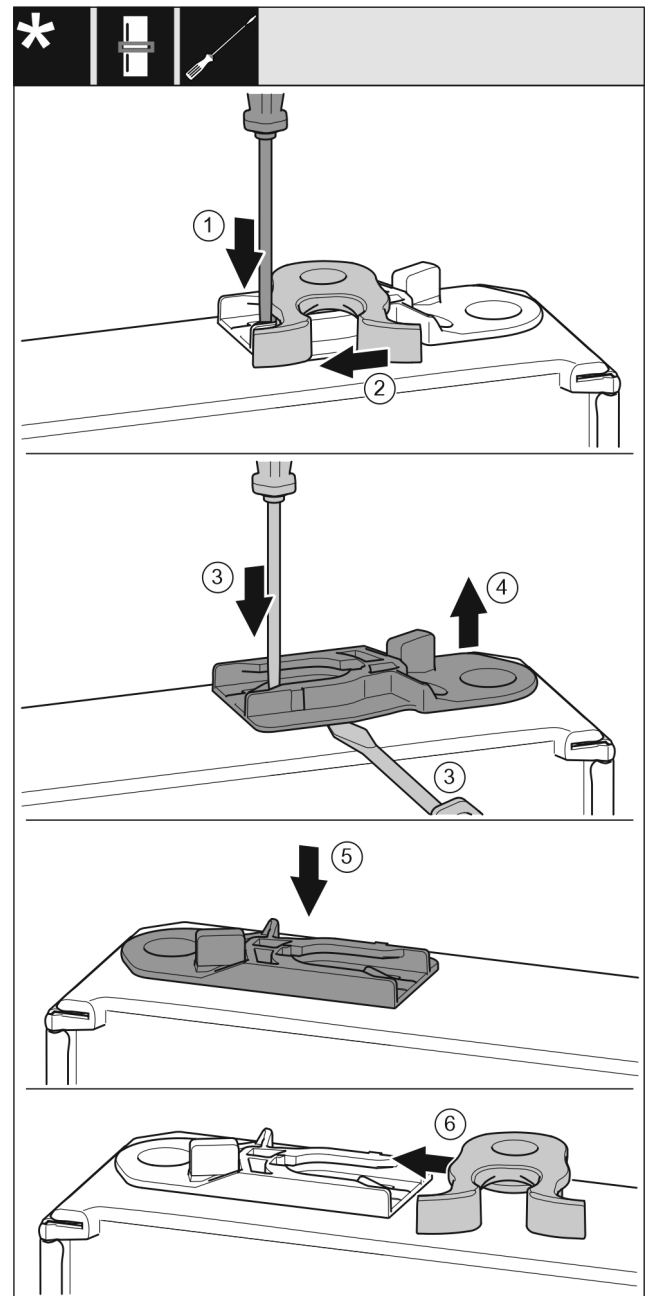

Fig. 21
- ▶ Use a slotted screwdriver to push the tab Fig. 21 (1) downward.
- ▶ Pull the closing hook Fig. 21 (2) out of the guide on the other side.
- ▶ Pull out the guide bushing Fig. 21 (3, 4): Press the tab with the slotted screwdriver while running the slotted screwdriver under the guide bushing at the same time.
- ▶ Insert the guide bushing Fig. 21 (5) supplied in the scope of delivery on the other side of the housing.
- ▶ Appliances without closing damper: Push the closing hook Fig. 21 (6) into the guide.